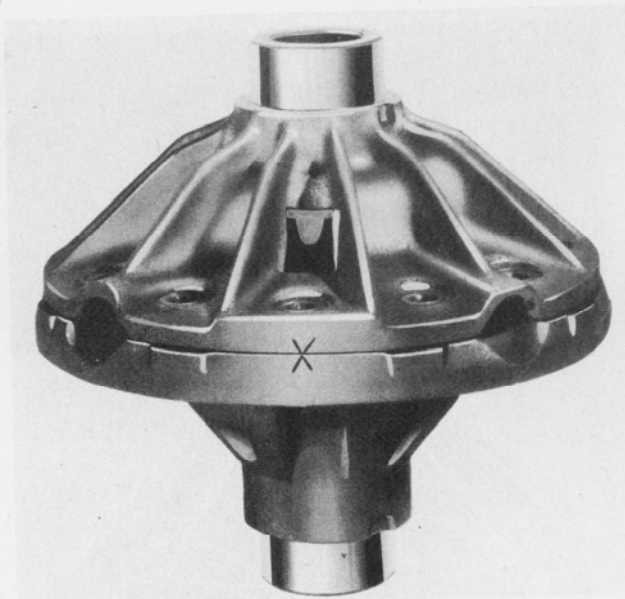

Fig. 7 Differential Case Marks.
- left half of the differential case (20) with a thrust washer (15) between each gear and the differential case.
2. Assemble the right side of the case (14) to the left side (20) being sure to line up the marks on the case halves, Fig. 7.
3. Install the guide pins. Slip ring gear (22) over pilot diameter of right-hand half of differential case (20).
5. Assemble the differential side bearings (13) to the case, using the special driver, J-1488.